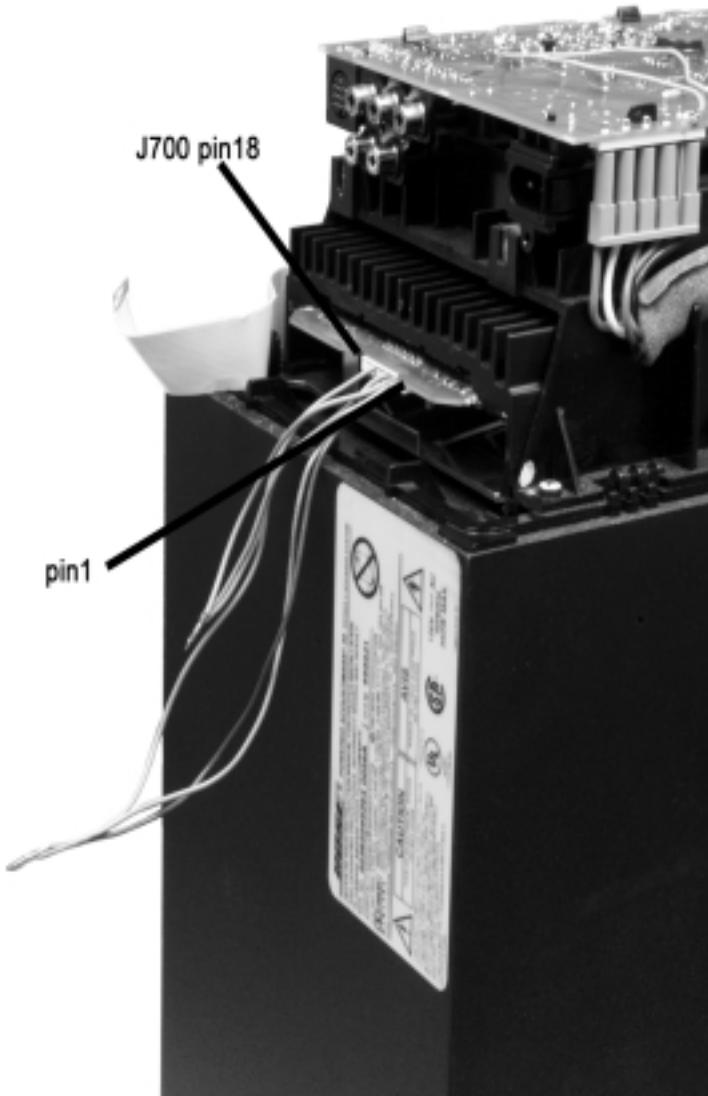

Figure 4. Input Wire Connection View at J700
2. Connect individual 22 AWG, solid core wires to connector J700 at the L/R/C/LS/RS output jack. This is the location where the white ribbon cable was connected. Connect the 8-wire test cable (see Figure 2) to the 8-wire gray cable coming from the amplifier PCB. Refer to Figure 4 and the Input Connector Table on page 11 for the following instructions. Connect a wire to pins 2, 3 and 4 of the connector J700. These are the mute lines used for un-muting the amplifier outputs. Connect individual wires to pins 12 (right channel), 10 (left channel), 9 (center channel), 8 (bass channel), 7 (left surround) and 6 (right surround). Leave the woofer connector where it is. You should connect the wires one channel at a time. Connect a single wire to pin 11 for a signal ground and connect a jumper wire from the audio signal ground to the shield on the DSP PCB.